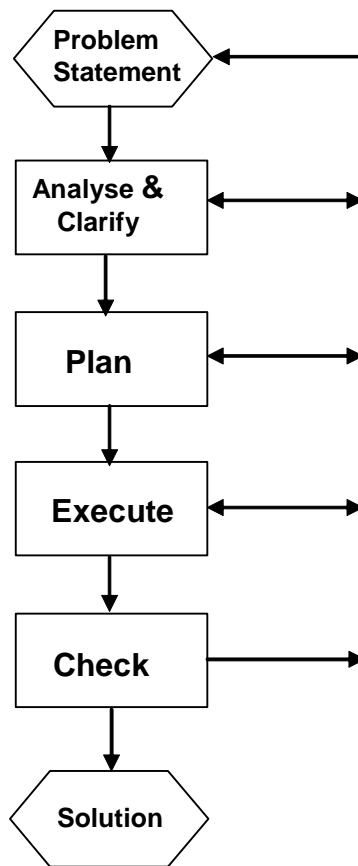

Figure 1: Example of problem solving strategy
- A flow diagram for an effective problem solving strategy is shown in Figure 1. (This is just one of many possible strategies.)